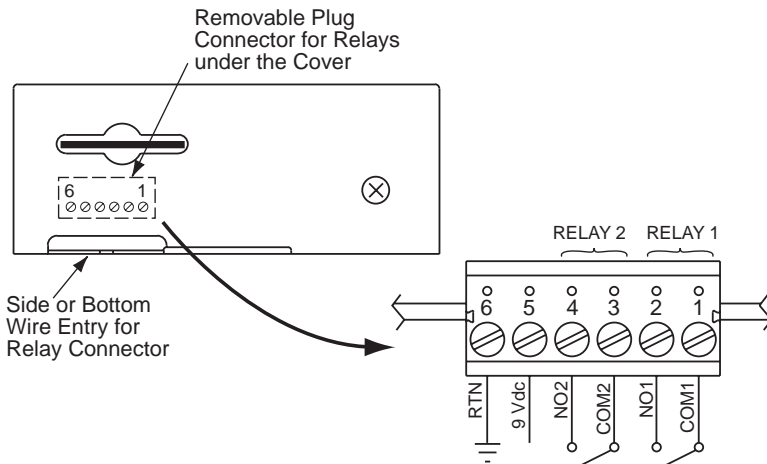

Figure 2.6 Relay Connections
It is recommended that you ground your unit by connecting a wire to the Return/ Ground position of the relay connector, see **Figure 2.6**.
- To wire relay connector. (Refer to **Figure 2.6**)